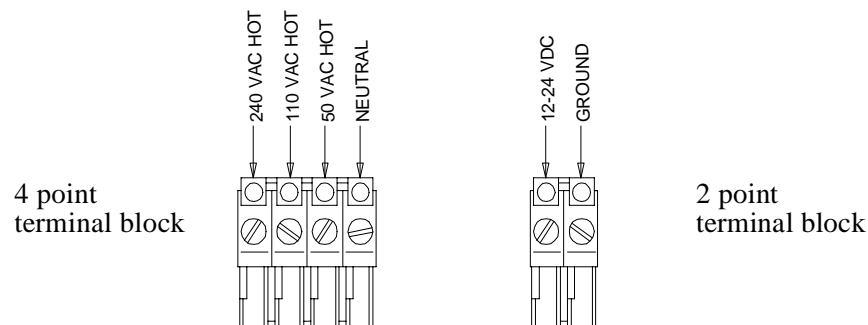

Figure 2.8: Input Power Connections
1. Refer to Figure 2.8: Input Power Connections to determine the appropriate power input blocks to use.
4. Connect incoming power to either the 2 point or 4 point terminal block as shown in Figure 2.8: Input Power Connections per customer requirement.